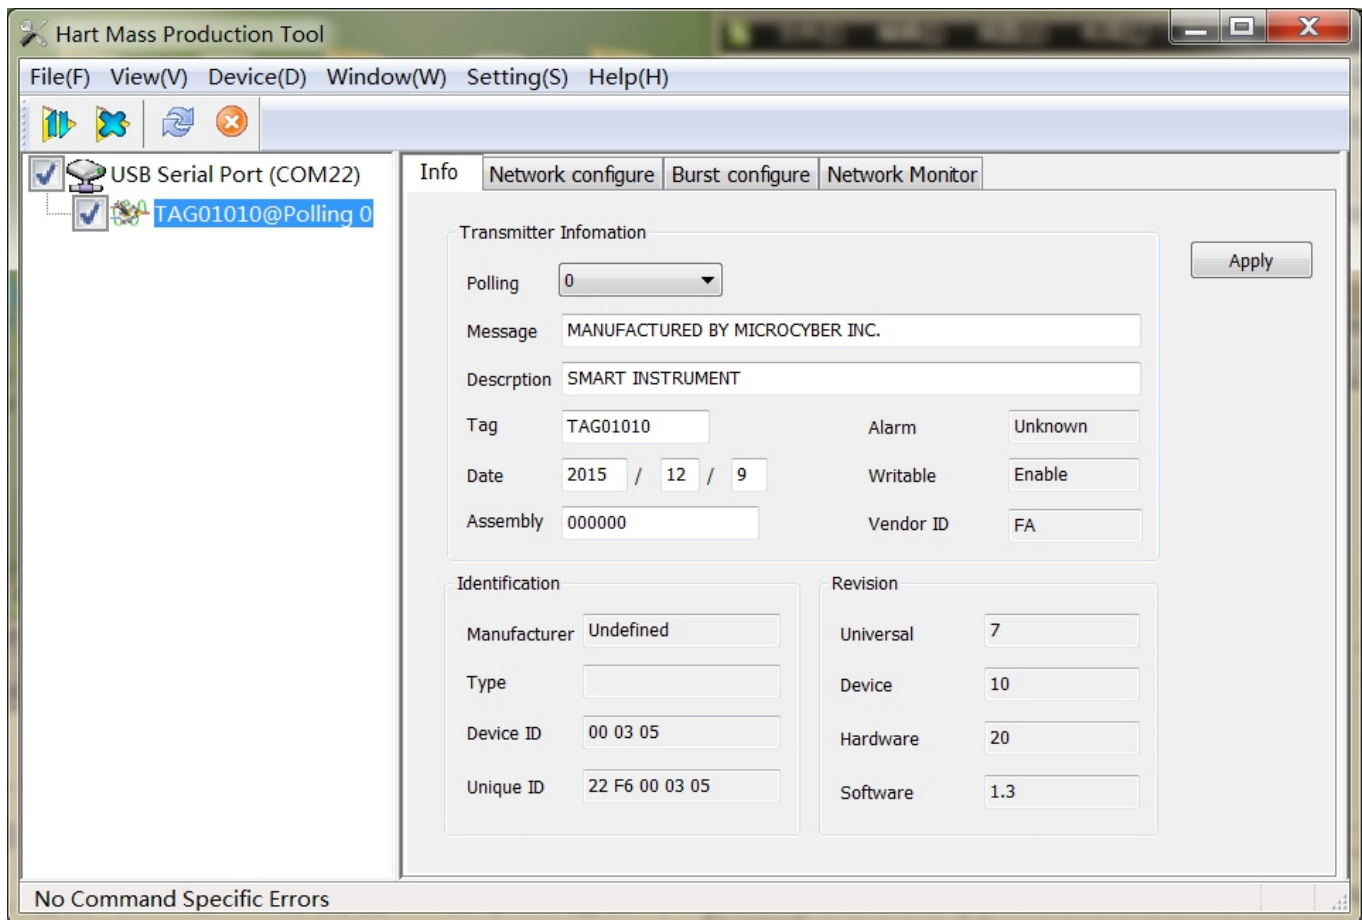
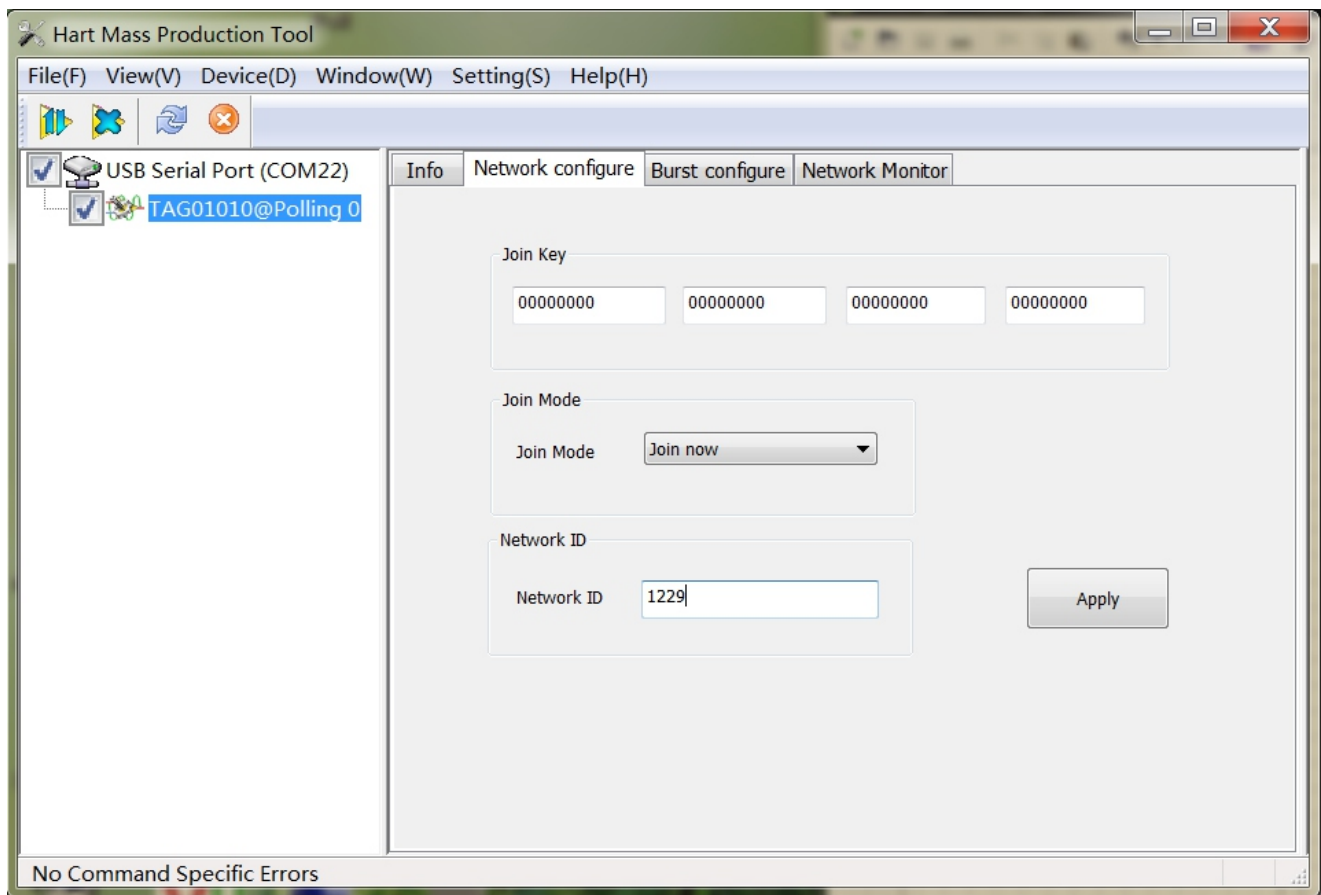

Figure 11 Device basic information page
Figure 12 Configuration of network
3. When device is successfully searched, left-click the device tag TAG00000@Polling 0 on left window to enter the window as shown in figure 11. Then the read-write operation for WirelessHART module's parameter begins.
4. Click “Network configure” column on right window of figure 11. Related information will be shown on configuration tool page, as shown in figure 12.
Click on the “Network Monitor” column as shown in the figure 12, then enter the interface as shown in the figure 13.